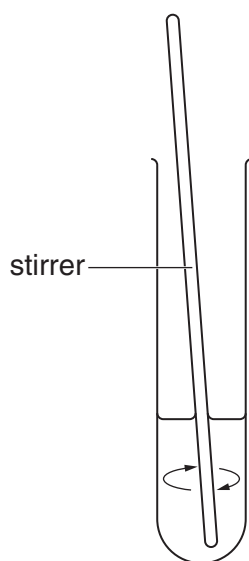

Fig. 1.3
- As shown in Fig. 1.3, stir **H** and **D** until mixed together.